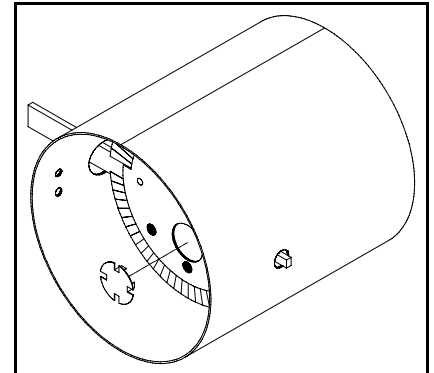

Figure 2
3. Insert pilot vent plug into gate and fold over tabs. (See Figure 2)